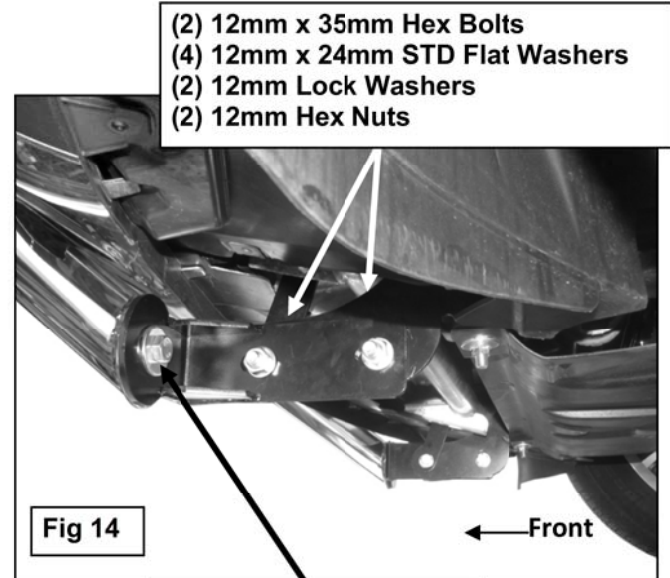

Fig 14
7. Select the driver side Sport Bar Mounting Bracket, **(Figures 12 & 13)**. Hold the Bracket up to the outside of the Frame Bracket. Bolt the Sport Bar Bracket to the rear hole in the Frame Bracket with (1) 12mm x 35mm Hex Bolt, (2) 12mm Flat Washers, (1) 12mm Lock Washer and (1) 12mm Hex Nut, **(Figure 14)**.
8. Line up the lower hole in the Support Bracket with the inside of the Frame Mounting Bracket, **(Figures 12 & 14)**. Insert (1) 12mm x 35mm Hex Bolt and (1) 12mm Flat Washer into the forward hole in the Frame Bracket and through the Sport Bar Bracket and Support Bracket. Secure with (1) 12mm Flat Washer, (1) 12mm Lock Washer and (1) 12mm Hex Nut, **(Figure 14)**. Do not tighten at this time.